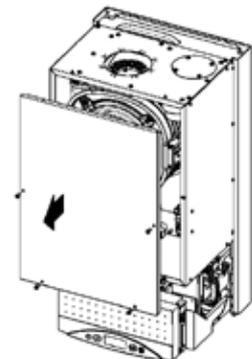

Fig. 2
6. Remove the front cover of the combustion chamber (Fig. 2).